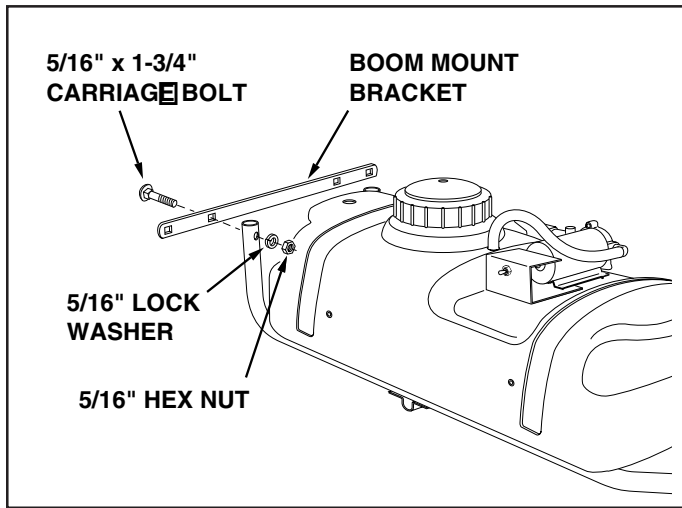

FIGURE 5
7. Assemble the boom mount bracket to the rear of the hitch tubes using two 5/16" x 1-3/4" carriage bolts, 5/16" lock washers and 5/16" hex nuts. **Do not tighten yet.** See figure 5.
Tighten the two bolts which fasten the boom mount bracket to the rear of the hitch tubes. See figure 5.